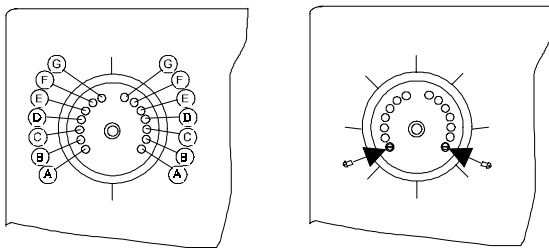

Figure 15: Dial-stop Screws
To limit travel of the dial, choose the desired range, and insert screws in the corresponding holes. (See Table 1.) For example, for a limitation of $\pm 4.2^\circ\text{F}$, insert one screw each in the holes marked (A) in Figure 15.